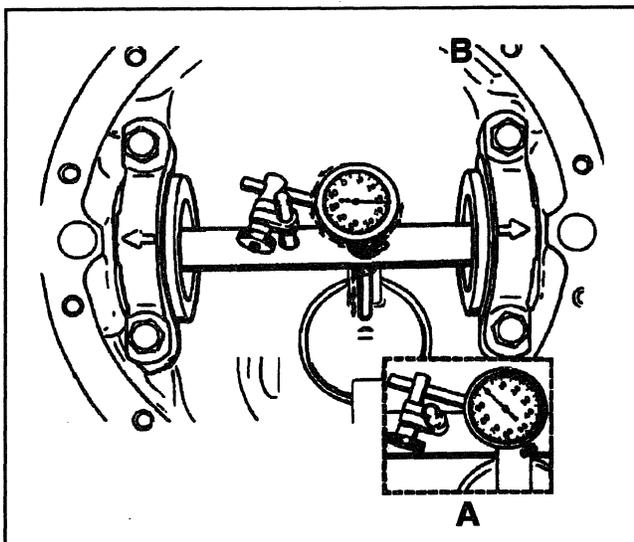

Figure 14—Checking Pinion Depth
- Set the dial indicator at zero. Push the indicator down on the indicator shaft until the needle rotates approximately 3/4 of a turn to the right. Tighten the dial indicator in this position (Figure 14).
EXAMPLE: If the indicator needle moved counter-clockwise 1.70 mm (0.067 inch) to a dial reading of 0.84 mm (0.033 inch) as shown in Figure 14, record the dial reading of 0.84 mm (0.033 inch), not 1.70 mm (0.067 inch).